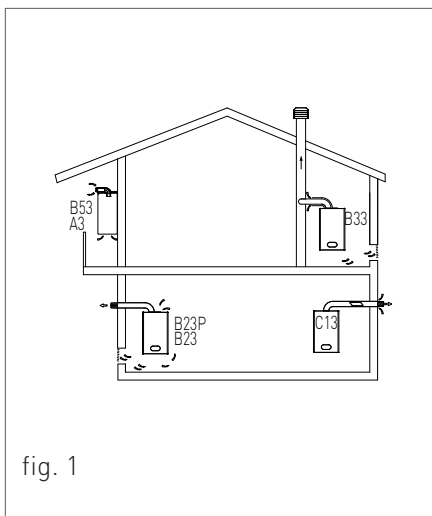

fig. 1
- › When a vertical flue system is installed, insert a condensate drain syphon at the base of the pipe, connected to the house/building sewage system (fig. 1).
For this type of boiler, the following flue exhaust configurations are available: A3, B23, B23p, B33, B53 and C13 (see Fig. 1).